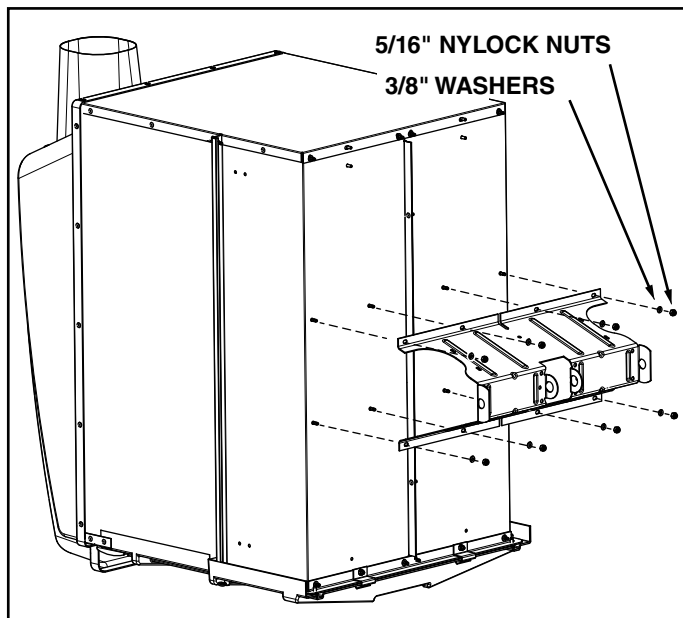

FIGURE 1
1. Tip the cart back to rest upright on the rear of the cart. See figure 1.
2. Attach the wheel support to the cart using eight 5/16" nylock nuts and 3/8" washers. See figure 1.